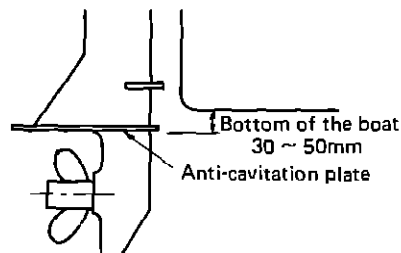

Fig. 3
- 2) Height: Fit the outboard so that the anti-cavitation plate is lower than the bottom of the boat by 3 – 5cm (1.2 ~ 2in.). (Fig. 3)